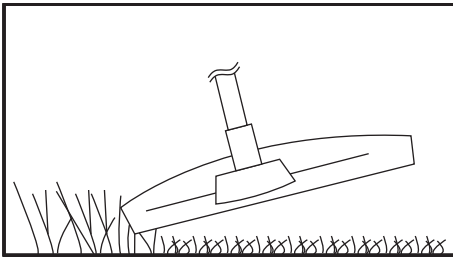

Fig. 19
1. Attach the trimmer head (18) to cut to cut smaller types of weed, lawn grass or similar soft vegetation. Make sure that the guard (17) has been attached properly.
4. Hold the trimmer head (18) just above the ground at an angle of approximately 30° (Fig. 19).